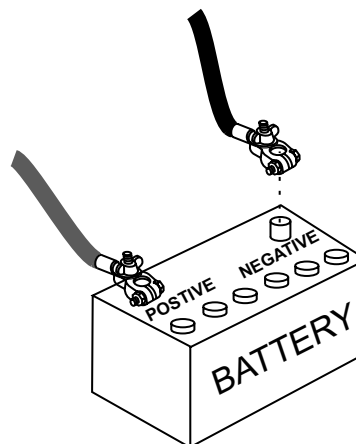

Figure 31. Battery Connections
3. Connect the negative battery cable (BLACK) to the negative post on the battery (Figure 31).